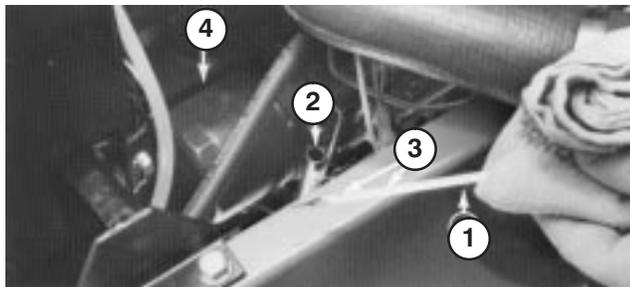

Figure 20
4. Remove dipstick and wipe it with a clean rag (Fig. 20). Push dipstick down into the tube and ensure it is fully seated. Pull dipstick out of the tube and check level of oil. If oil level is low, remove filler cap (Fig. 21) and add enough oil to raise level to top notch on dipstick (Fig. 20). DO NOT OVERFILL.